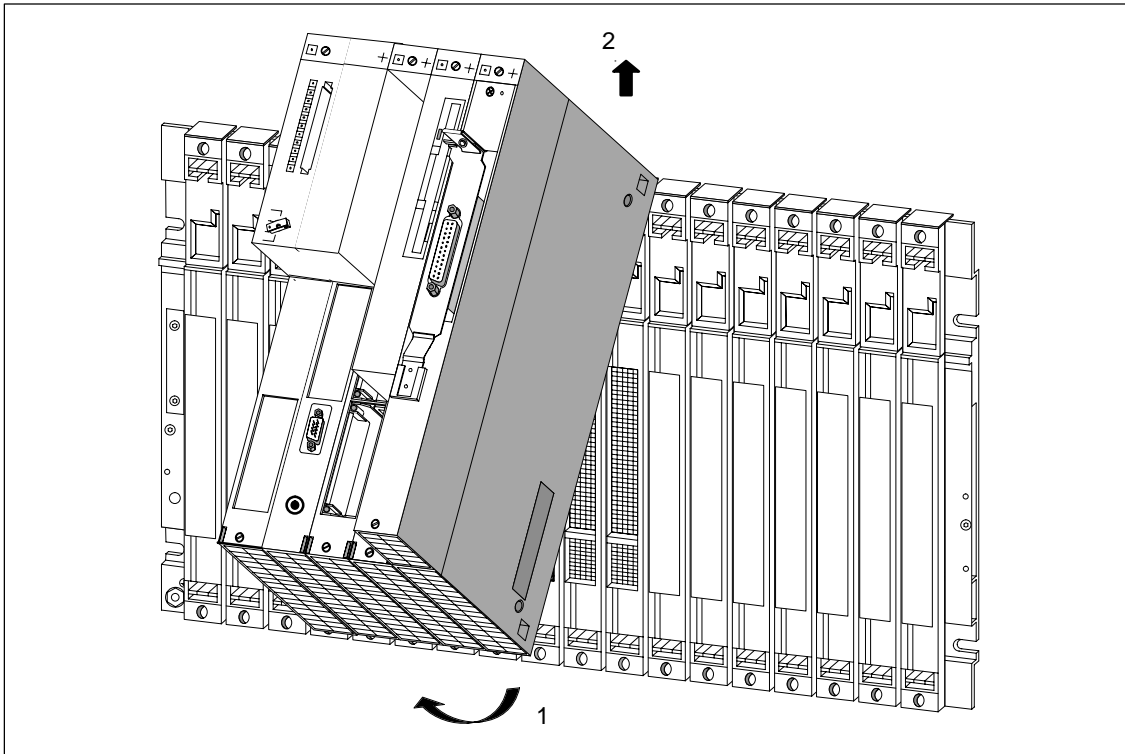

Figure 8-24 Swinging a Module Assembly Out and Lifting it Up and Out
8. Swing the module assembly forward out of the bus connectors and lift it upward and out of the guides of the rack (Figure 8-24).